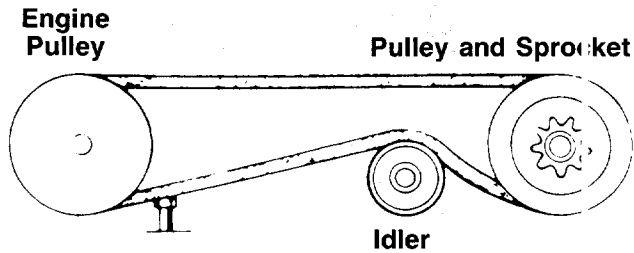

FIGURE 30.
11. Reassemble in reverse order with the new belt, making certain the idler pulley is under the belt. See figure 30.